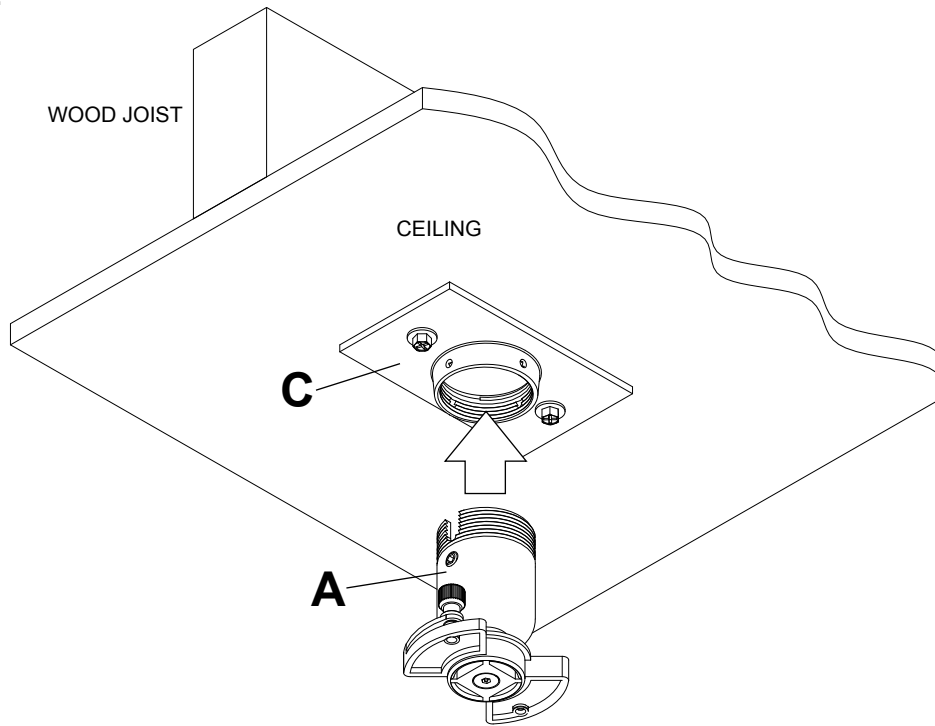
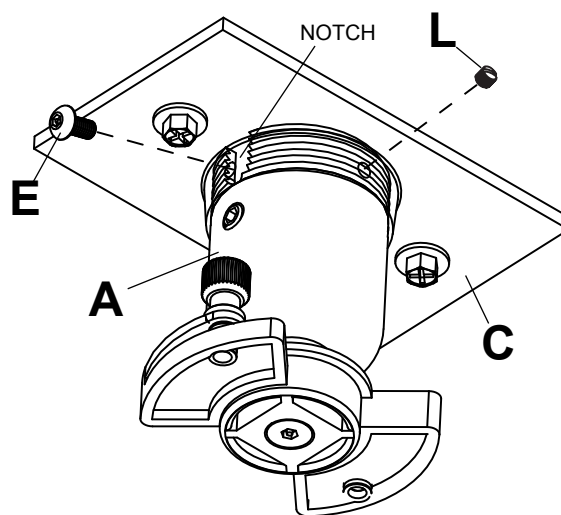

figure 3.1
figure 3.2
- 3** Screw ball and socket mount (A) into ceiling plate (C) as shown in **figure 3.1** (minimum 5 turns). Align the notch with one of the four holes of the ceiling plate (C) and secure ball and socket mount (A) with a M5 x 10 mm socket pin screw (E) using security allen wrench (U) as shown in **figure 3.2**